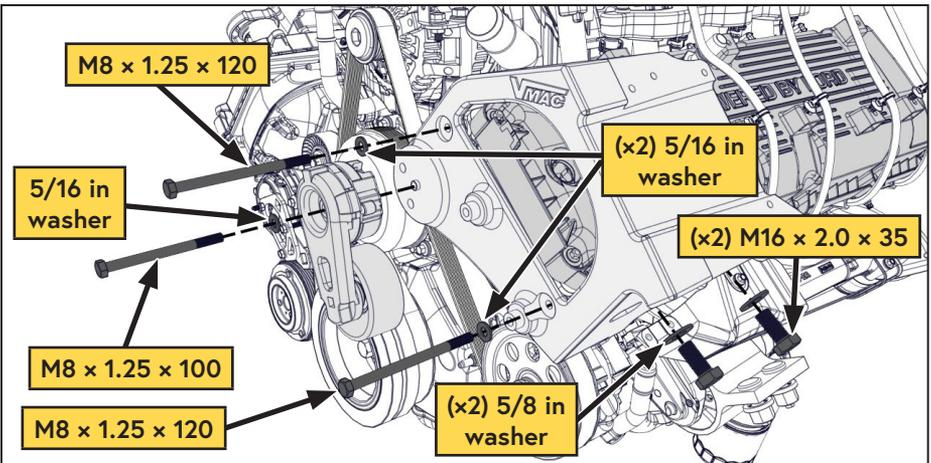

Figure 18 — Install main bracket
- Torque the (x2) M16 fasteners to specification followed by the (x3) M8 fasteners (Figure 18).